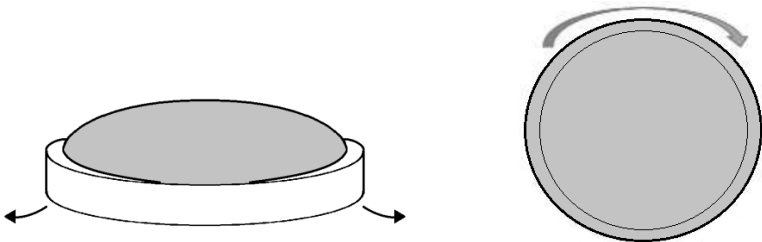

Fig. 1
- Remove the bezel surround by unclipping from the luminaire housing, then remove the diffuser by rotating anticlockwise (see Fig. 1)